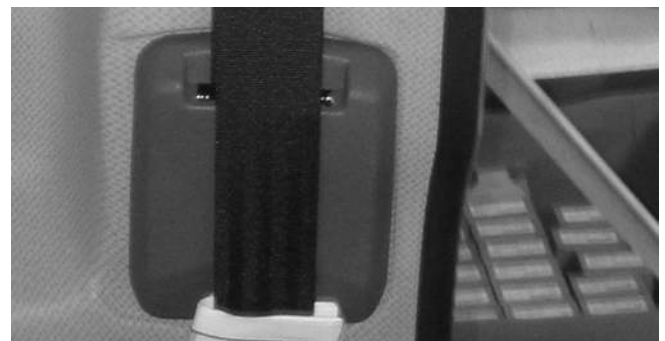

Figure 13-11
- 15. Reinstall the retractor cover (see Figure 13-11).